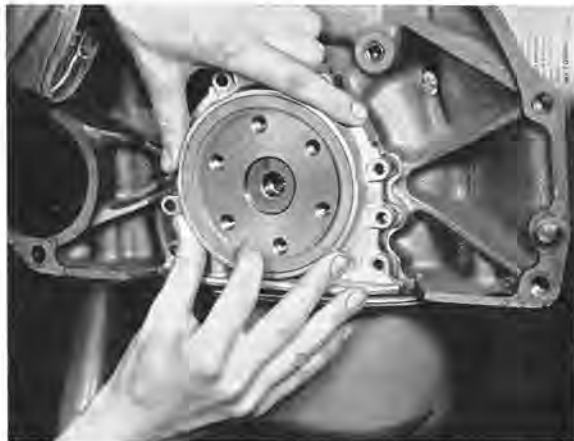

Fig. 2-35. Fitting sealing flange
4. Fit the sealing flange, its sealing surface being well cleaned, and a new gasket. (Oil first the sealing ring.) The sealing flange should be mounted on the crankshaft carefully, see Fig. 2-35. Use your finger to fit on the sealing lip.